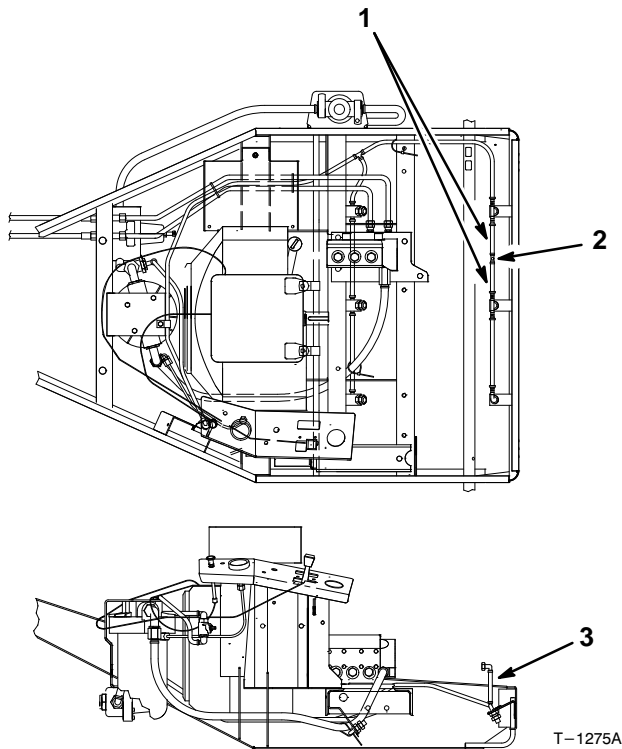

Figure 11
- A. Remove the hose that runs from the regulator to the tee fitting (Fig. 11).
- B. Remove the tee fitting and the two hoses between the spray wash nozzles (Fig. 11).